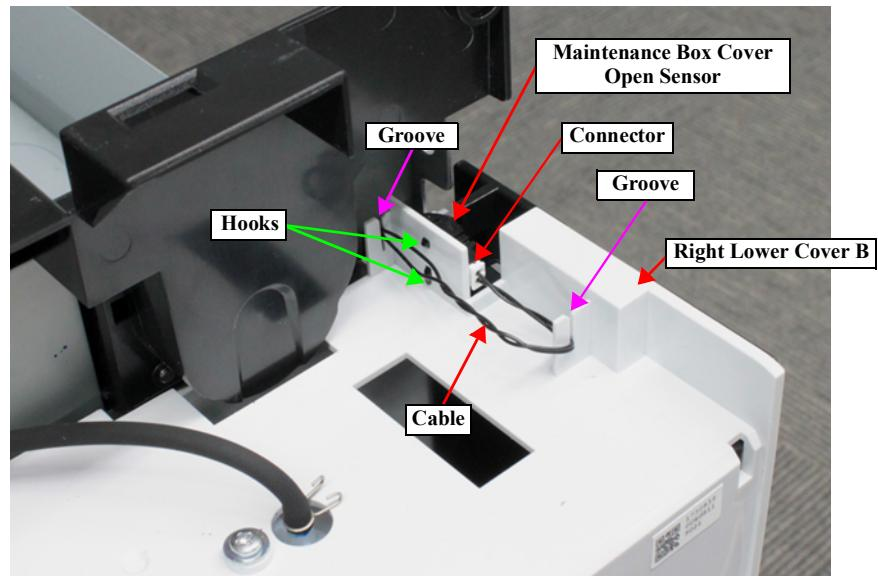

Figure 3-40. Removing the Maintenance Box Cover Open Sensor
**Route the cable through the two grooves on the Right Lower Cover B. (Figure3-40)**